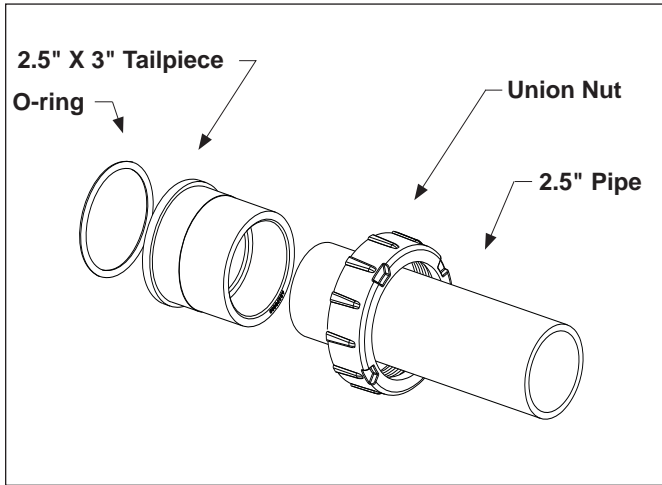

Figure 4. 2.5" X 3" Assembly Shown Connecting a 2.5" Schedule 40 Pipe
- a. For 2.5" pipe size, attach the slip fit side of the tailpiece to the end of the 2.5" pipe as shown in Figure 4.